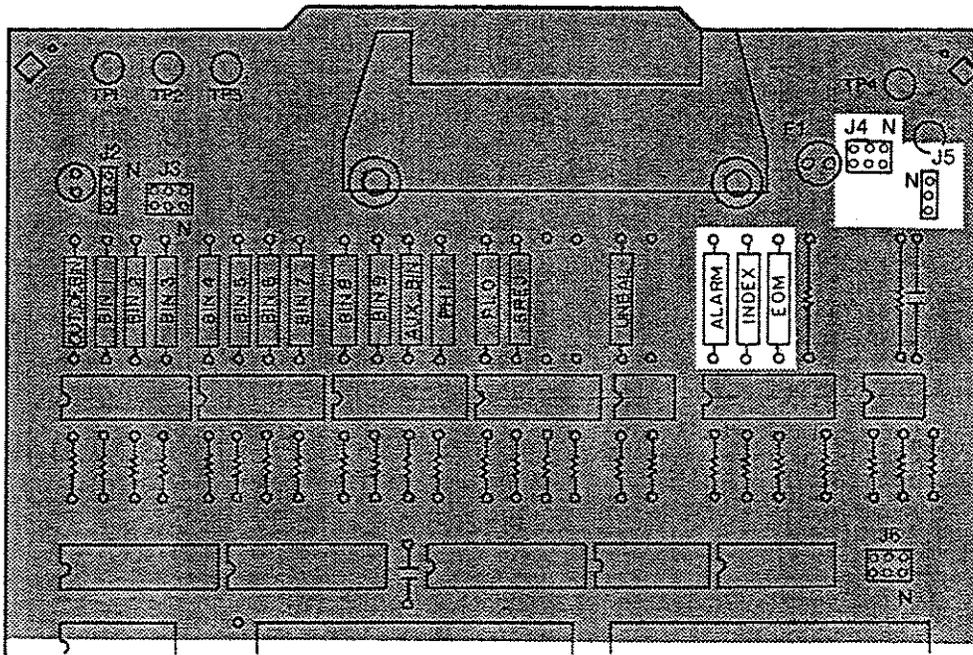

Figure 2-12. How to Set Up the Handler Interface Board (2)
12. Set the jumpers in accordance to Table 2-7, (See Figure 2-12).